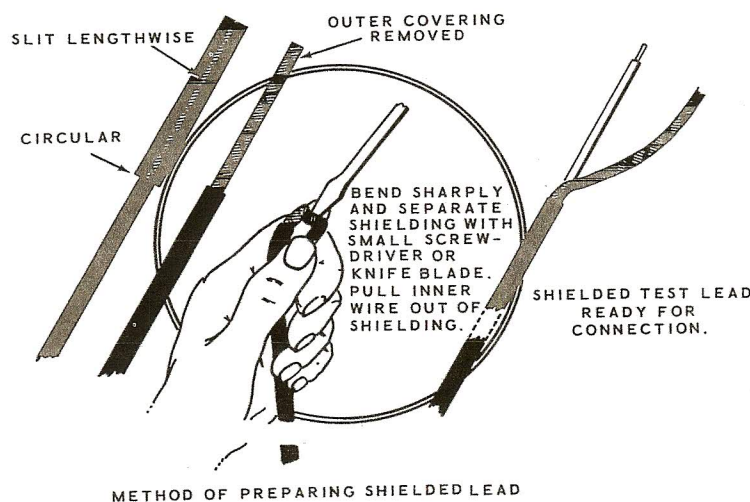

Figure 9
- ( ) Connect the wire from BJ8 to 638  $\Omega$  resistor CD1 (S). Dress the wire close to the cooling bracket as shown.
- ( ) In the same manner, connect the wire from BJ9 to 16  $\Omega$  resistor CC1 (S).
- ( ) In a similar fashion, connect the wire from BJ10 to 8  $\Omega$  resistor CB1 (S).
- ( ) Run the wire from BJ11 to 4  $\Omega$  resistor CA1 (S).
- ( ) Connect the short wire from BJ2 to 4  $\Omega$  resistor CA2 (S).
- ( ) Dress the long wire from BJ2 and grommet AE tight to the chassis and front panel and connect the free end to panel ground lug BA (NS).
- ( ) Connect the remaining wire from BJ1 and grommet AE to terminal strip K1 (NS).
- ( ) Run the wire from BJ7 around the outside edge of the chassis and connect it to panel binding post lug BB (NS). Dress the wire tight to the panel and chassis apron edge.
- ( ) Cut a piece of insulated shielded wire to a length of 8". At one end, cut away about 3/4" of outside insulation and braid, leaving the insulated center conductor only. See Figure 9. Strip about 1/4" of insulation from the center conductor and tin the exposed wire.